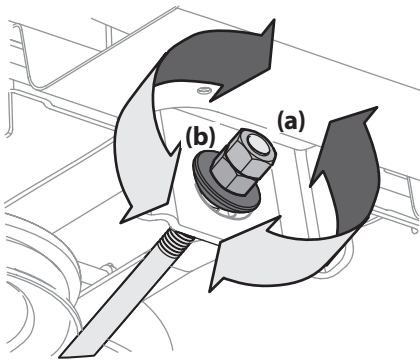

Figure 4-6
5. To *raise* the front of the deck, remove the end cap, loosen the outer nut (a) then tighten (thread inward) the inner nut (b) against the front hanger bracket. See Figure 4-6. When proper adjustment is achieved, re-tighten the outer nut (a) and replace the end cap.
6. To *lower* the front of the deck, remove the end cap, loosen the outer nut (a) then loosen (thread outward) the inner nut (b), away from the front hanger bracket. See Figure 4-6. When proper adjustment is achieved, re-tighten the outer nut (a) and replace the end cap.